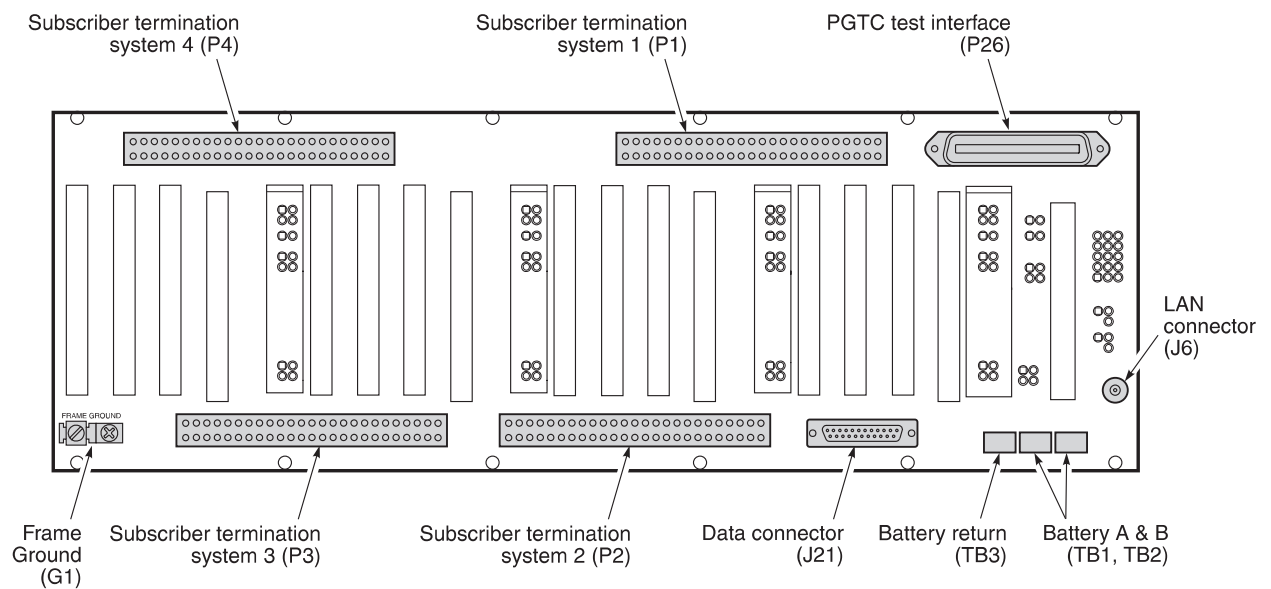

Figure 2. FCS-719 COT Shelf Backplane
4.3 Table 7 lists the FCS-719 backplane connectors (Figure 2) and where each is described in this practice.